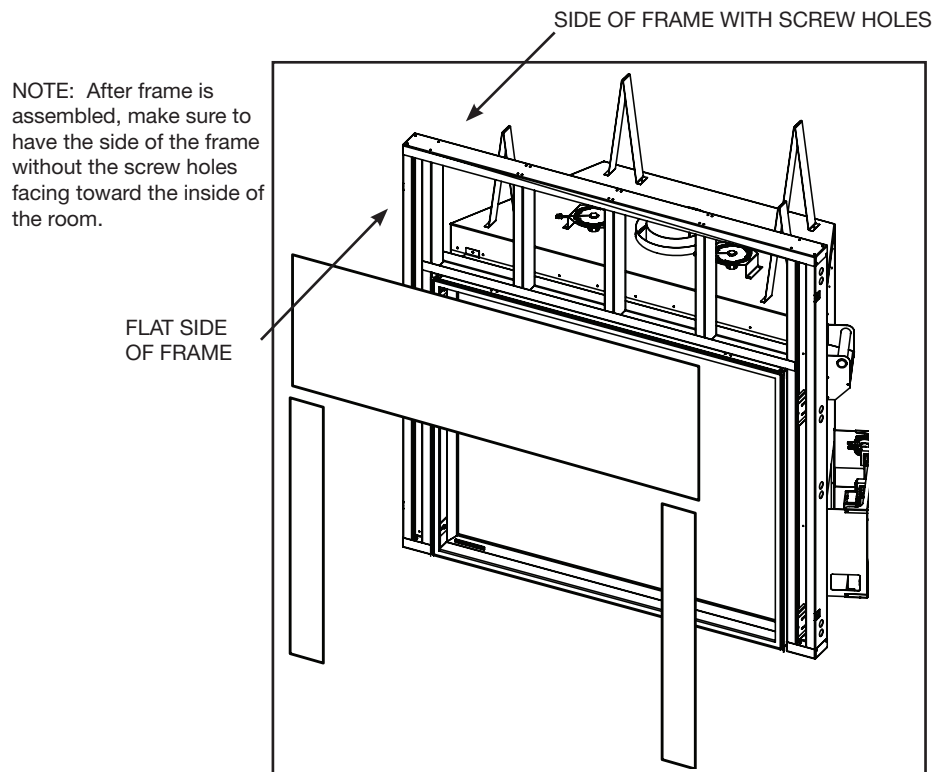

Figure 16: Aligning the frame so that the flat surface is facing outward.
- Use drywall screws to install the concrete board (Figure 16).